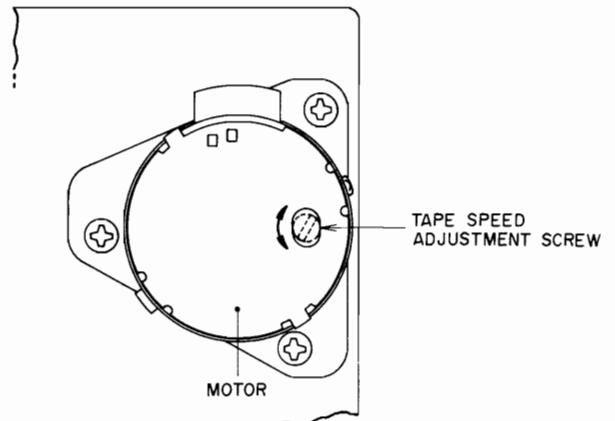

Fig. 13 Tape speed adjustment
5. TAPE SPEED ADJUSTMENT (Refer to Fig. 13)